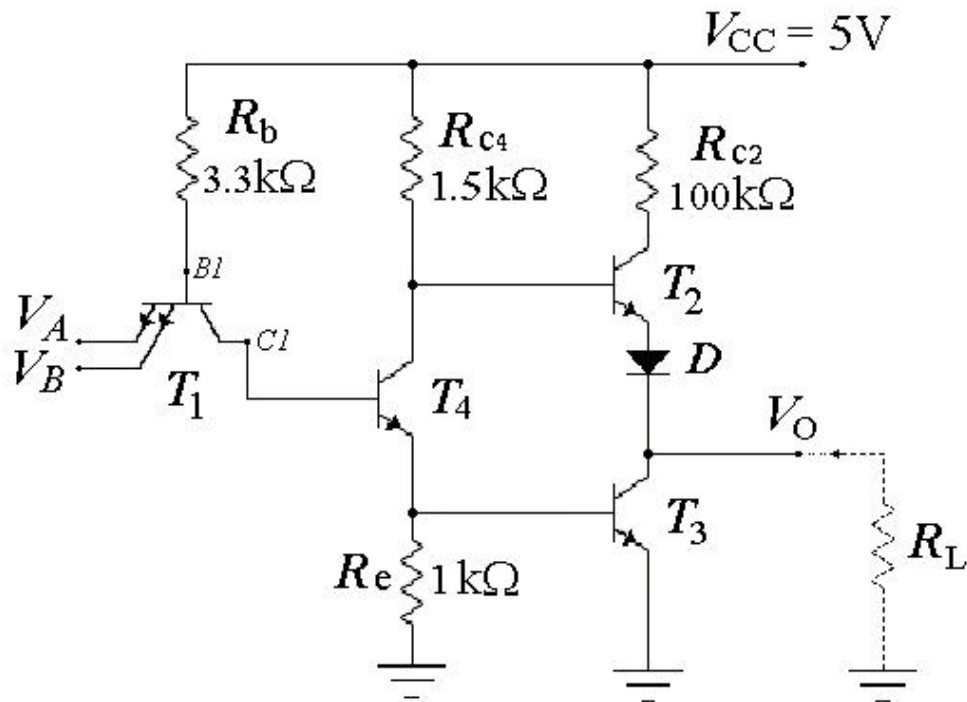

Figure 2 : TTL NAND gate using discrete components
- 1- **Construct** the circuit as shown in Figure 2. **Adjust** the dc supply to 5 volts.